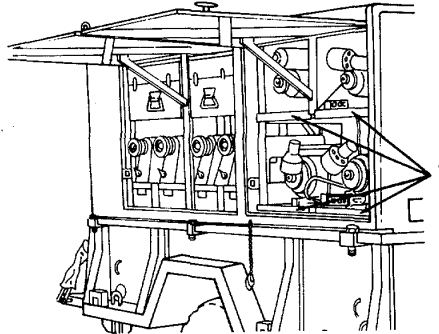

Figure 2-68. Table Tops, Installation.
(7) Refer to Figure 2-68. Place table tops (1) into the cabinet with their labels facing outward.